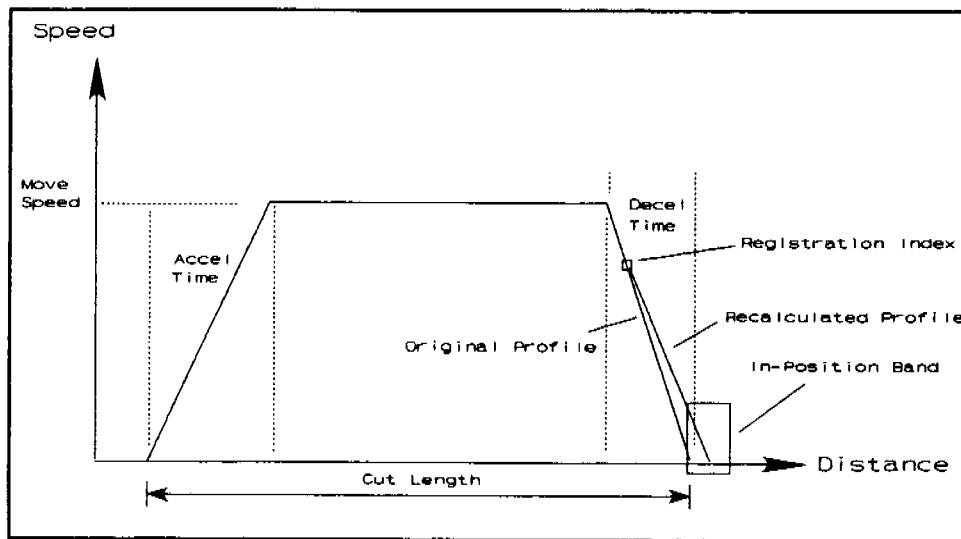

Figure 5-4: Profile Move with Registration Mark.
- 8) If present, determine the length from the registration index to the final cut position in engineering units and enter that value into CP-6. When present, the M-Cut recalculates the last portion of a profile move once the registration index is detected. See Figure 5-4. The registration index operation is disabled for profiles with a programmed registration length of zero.